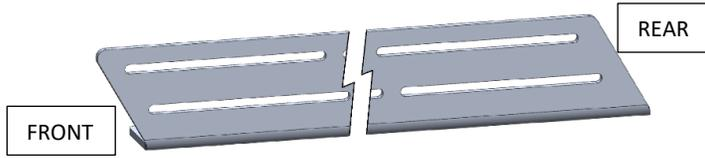
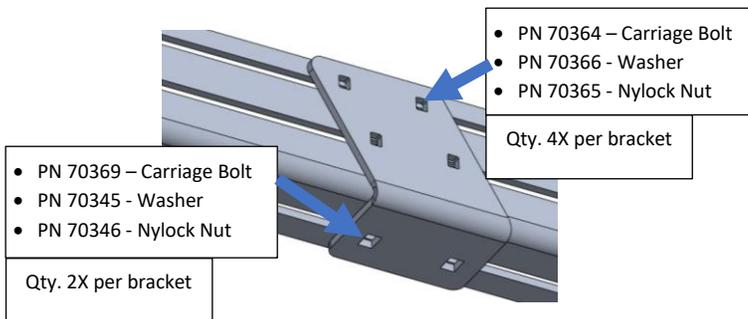

Figure 1: Side Rail Orientation
Figure 3: Side Rail Bracket Hardware Installation
1. Using the associated carriage bolts and side rail brackets, connect the front and rear side rails together. Reference Figure 1 - Figure 3 for more